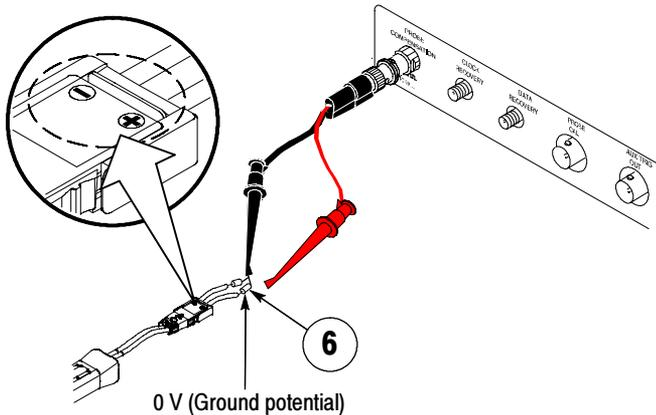

Figure 6: Short resistor leads
- Use the (-) Minigrabber to short the resistor leads together and connect to a ground potential. See Figure 6.